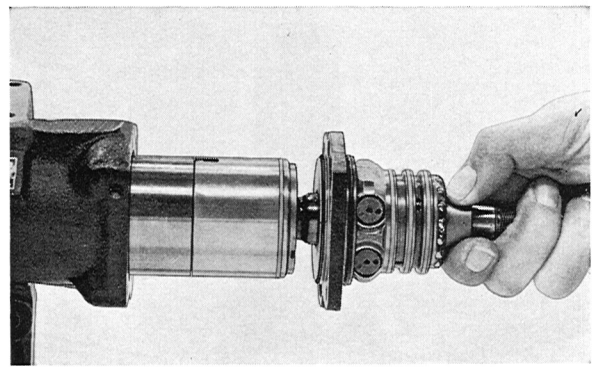

Fig. 6-78. Removing worm
5. Pull out the worm (68), cover (30) and piston (22), see Fig. 6-78.